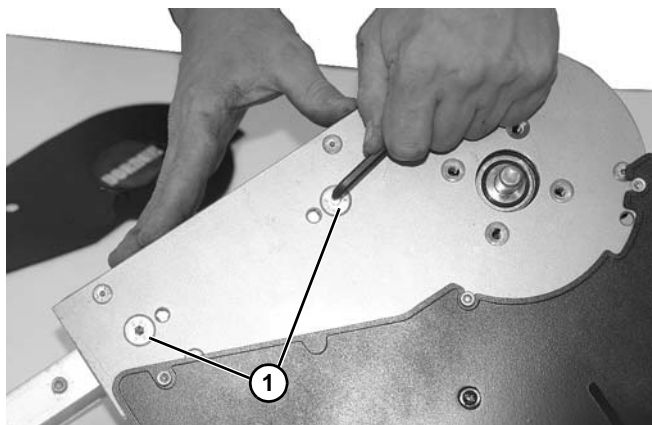

Figure 111
5. Remove two screws (**Figure 111, item 1**) on side of drive spindle.